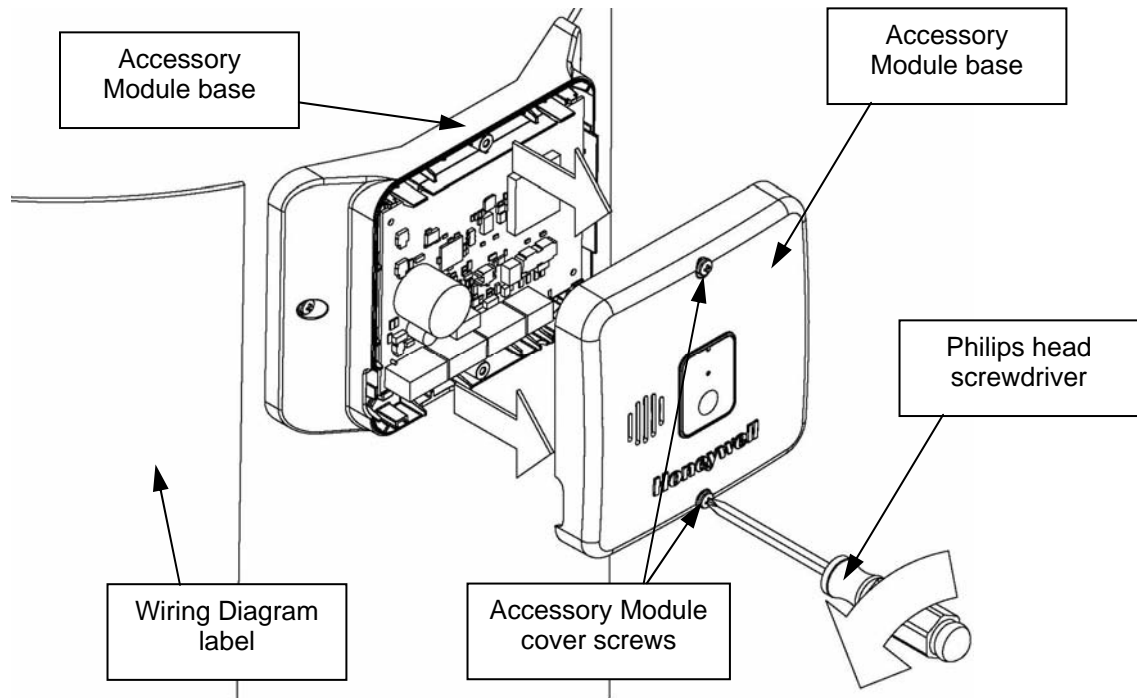

Figure 11
Step 11: Using a Philips head screwdriver, loosen both screws on the Accessory Module cover, as shown in Figure 11. The cover screws are permanently retained and cannot be completely removed. Retain the cover for later use.